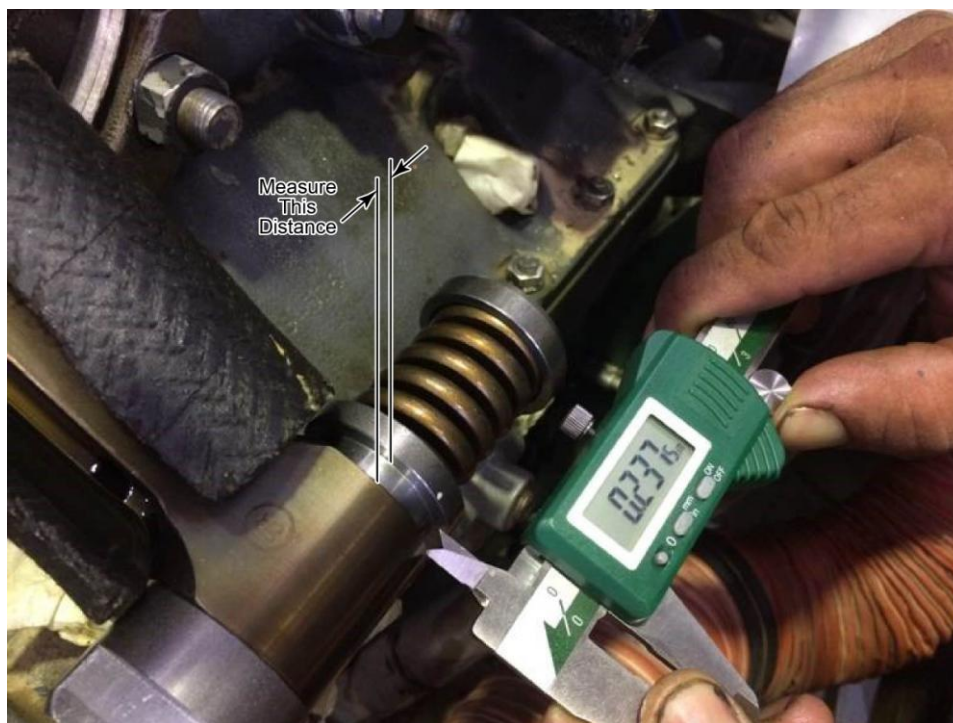

Figure 9
REASON FOR REVISION: Clarified MODELS AFFECTED; added NOTICE on page 1; clarified Steps 1.B and 4.B in "Required Action"; under the "Connecting Rod Bushing Press-Out Verification Procedure" - deleted Step 1 (reference to SB-630), added new Steps 7, 9, and 10 and new Figure 9 for better measuring procedure for indication of bushing movement, clarified the NOTICE after Step 11.A.(2) on page 5; added text to "use new seals and gaskets" in Steps 11.A.(4) and 11.B.(2) on pages 5 to 6; added IO-580 and AEIO-580 engine models to row for LW-12034 in the Top Overhaul Gasket Kit table on page 9
7. Measure the distance from the collar on the center section of the ST-531 to the edge of the connecting rod (Figure 9).
9. Re-measure the distance from the collar on the center section of the ST-531 to the edge of the connecting rod (Figure 9).